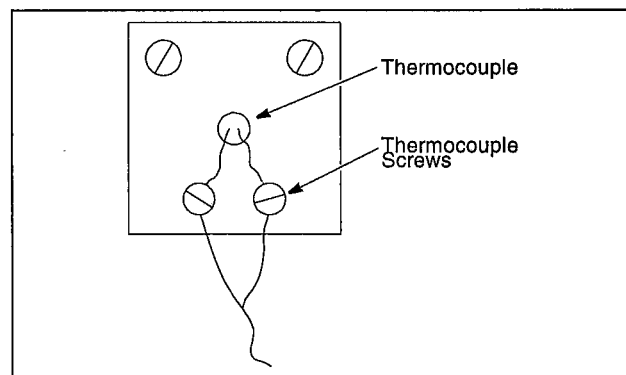

Figure 1. Thermocouple
4. Check the thermocouple wiring connections. Refer to Figure 1 on page 3. Red is always negative.
5. Check that the thermocouple is securely mounted and undamaged. Check the thermocouple wiring connections. Refer to Figure 1. Red is always negative.